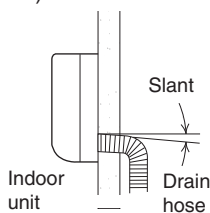

Fig. 3-69
- a) The drain hose should be slanted downward to the outdoors. (Fig. 3-69)